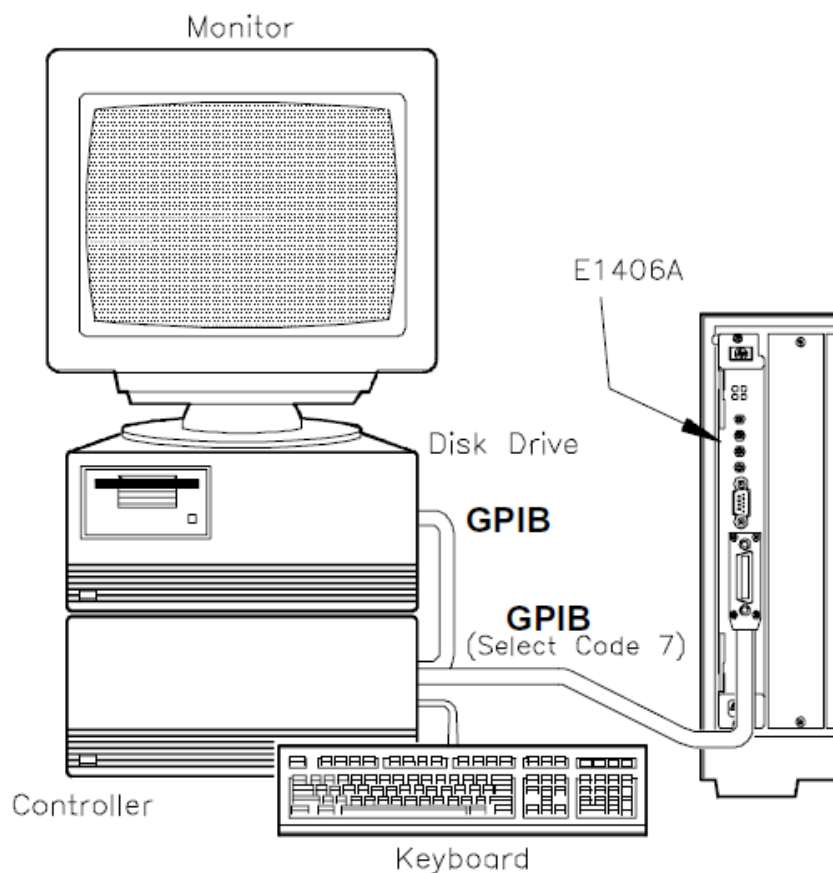

Figure 2-11 Test F-4: Table/Memory Info Connections
- Connect computer to Command Module (see Figure 2-11)